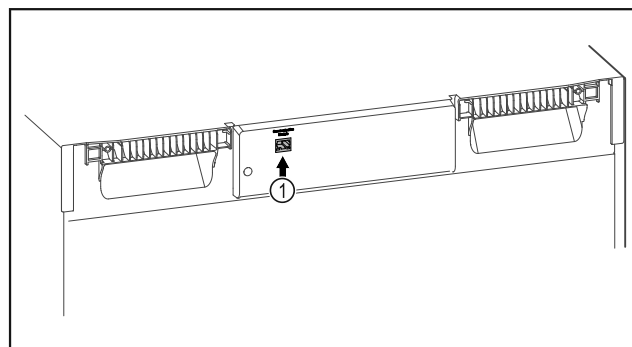

Fig. 115
- ☐ SmartModule Fig. 115 (1) is in use.